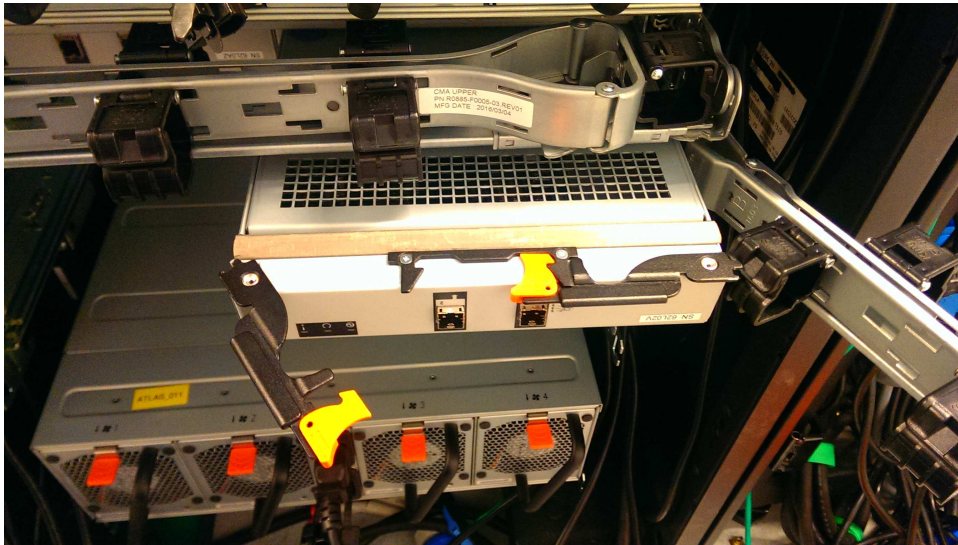

Figure 124. Install the expansion canister
1. Disconnect the elbow of the lower cable management arm to swing it out of the way, as shown in Figure 124.
4. When the expansion canister is fully inserted, rotate each handle inward to lock it into position, as shown in Figure 124.